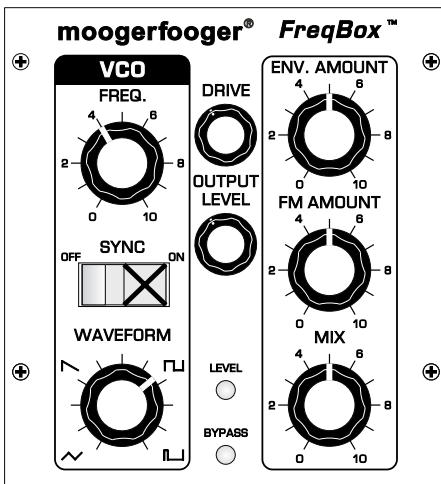

Figure 2 Basic Panel Setup
**3) Set up the Front Panel/ Amp:** Set all the rotary controls on the FreqBox as shown in figure 2. Make sure the